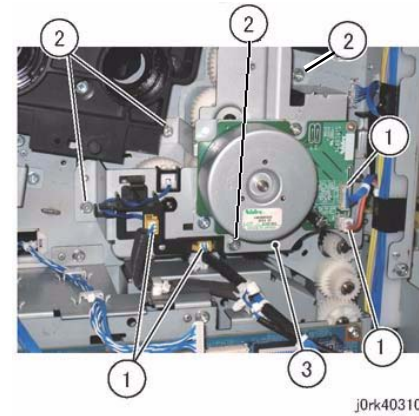

Figure 1 Main Drive Assy Removal
3. Remove the Main Drive Assembly. (Figure 1)